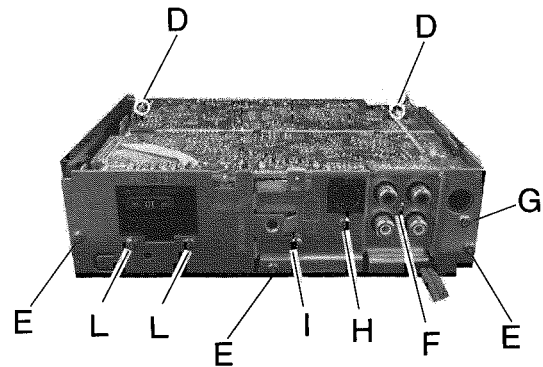

Fig 7
■ **Removing the rear brackt (See fig7)**